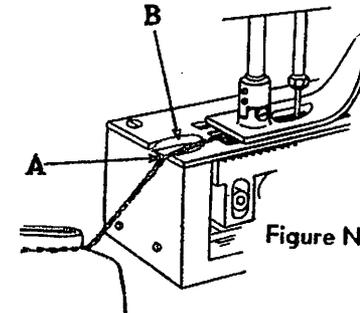

Figure No. 15A
- 18-A. To finish closing operation, run machine off the bag two or three inches. With machine running, pull chain "A" firmly into throat plate slot "B". Figure No. 15A.